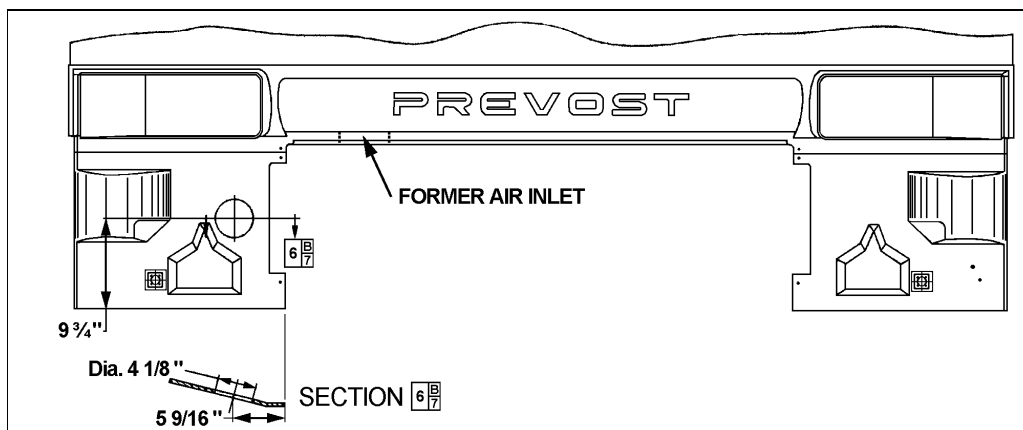

FIGURE 2
2. Install foam rubber (476159) inside former air inlet then fix cover plate (476156) using rivets in order to block opening (refer to figure 2).
6. Cut a 4 1/8 inch diameter opening for the air inlet mounting flange (373930) (refer to figure 2).